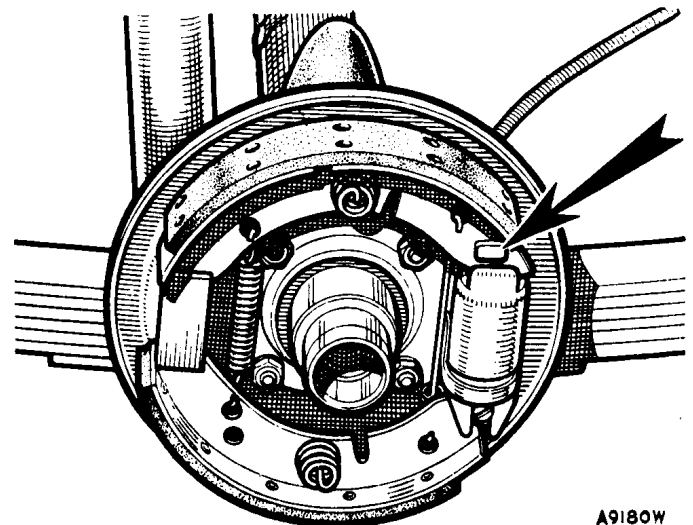

Fig. M.22
- (1) The trailing shoe is identified by a rectangular boss at one end of the web (Fig. M.22).
- (2) The trailing shoe must be fitted uppermost with the identification boss at the cylinder end.
- (3) The leading (lower) shoe must be fitted with the recessed end engaged with the Micram shoe adjuster on the wheel cylinder.
- (4) Fit the longer spring at the cylinder end of the shoes.